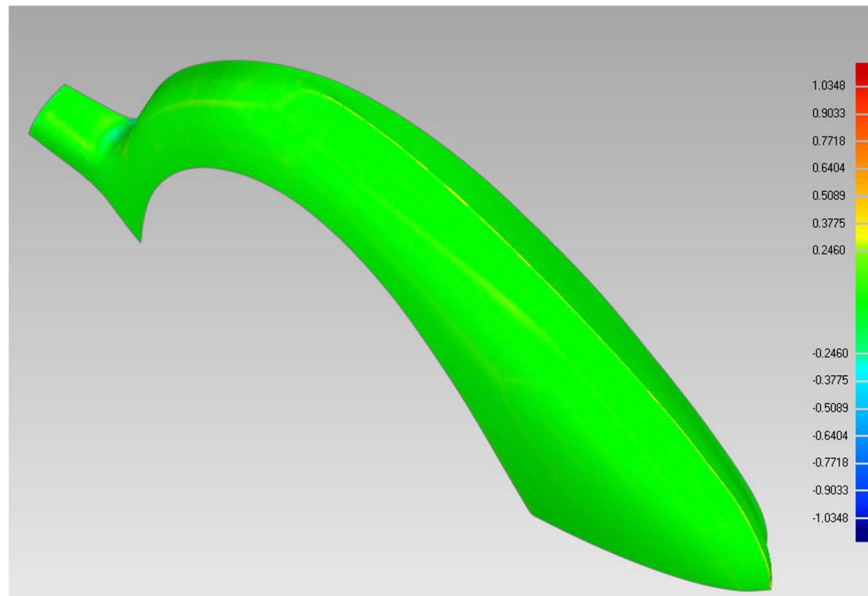

Figure 109
- Click **Apply** to generate a deviation spectrum analysis, see **Figure 109**